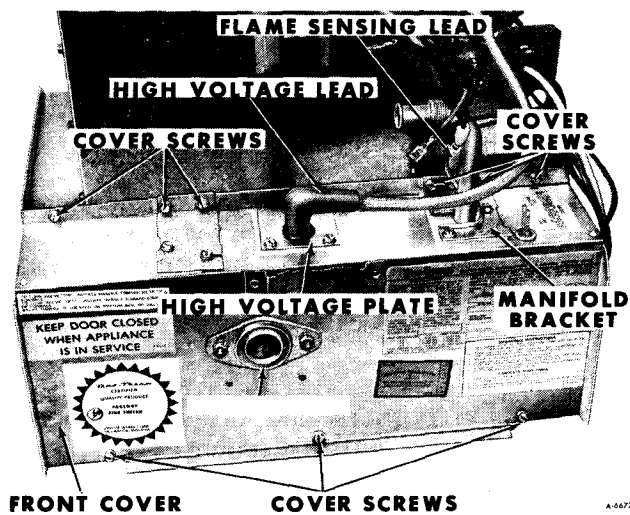

Figure 18—Location Of Furnace Front Cover
2. Disconnect high voltage lead from spark electrode (figure 18). Remove high voltage plate and gasket.
2. Install furnace front cover (figure 18). Be sure flame sensing lead is located next to main burner gas line.